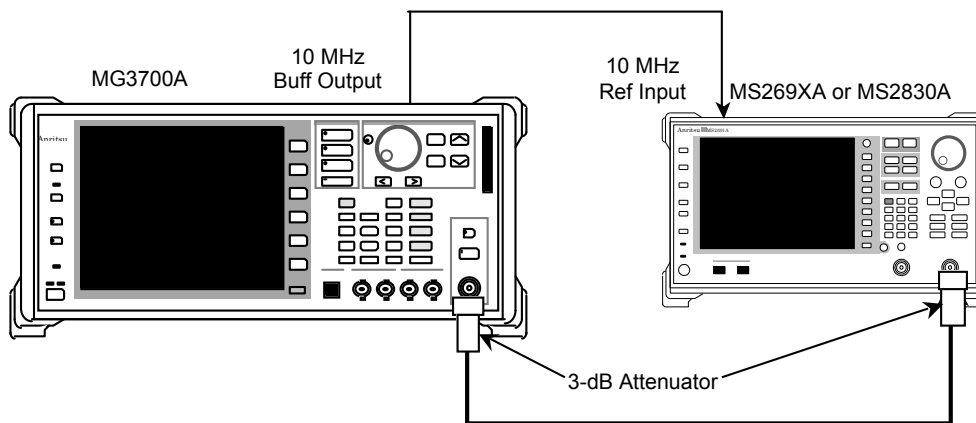

Figure 6.3.3-1 Linearity Calibration Setup
1. Setup the instruments as shown in Figure 6.3.3-1.
2. Set the signal analyzer (SA) as shown in #1 of Table 6.3.3-1 “Signal Analyzer Settings”.
3. Output a 399.99 MHz signal from the Vector signal generator (SG) at a level of +10 dBm (output level reference). This output level reflects the calibration value for item 6.3.1.